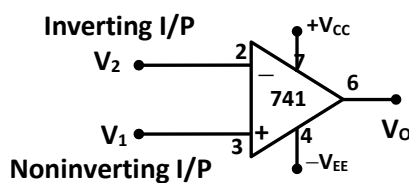
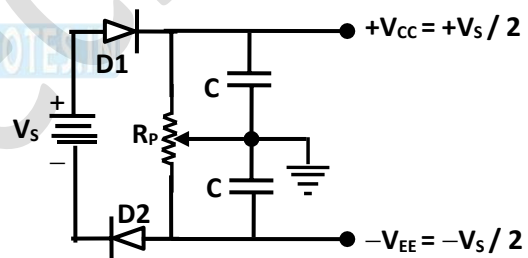

Figure3.20: OP-AMP Power Supply Connections
Figure3.21(C) : Arrangement for obtaining positive and negative Supply voltages for an Opamp
As opamp uses one or more differential amplifier stages and differential amplifier requires both positive and negative power supply for proper operation of the circuit. The two power supplies required for a linear IC are usually equal in magnitudes, +15V and -15V respectively. These power supply voltages must be reference to a common point or ground. Figure 3.20 shows power supply connections for the 741 opamp. Pin 7 is a positive supply and pin 4 is a negative supply pin. Instead of using two separate power supplies, we can use a single power supply to obtain $+V_{CC}$ and $-V_{EE}$ as shown in figure 3.21 (a), (b) and (c). In figure 3.21 (a) the value of total resistance ($2R$) should be $\geq 10k\Omega$ for not to draw much current from the supply V_s . The two capacitors (range from $0.01\mu F$ to $10\mu F$) provides for decoupling (bypass) of the power supply. In figure 3.21 (b) zener diodes are used for obtaining symmetrical power supply voltages. The value of R_s is chosen such that it supplies sufficient current for the diodes to operate in avalanche mode. In figure 3.21 (C) the potentiometer R_p is used to assure equality between $+V_{CC}$ and $-V_{EE}$ values. Diodes D_1 and D_2 are used to protect the IC, if the negative and positive terminals of V_s are accidentally reversed.